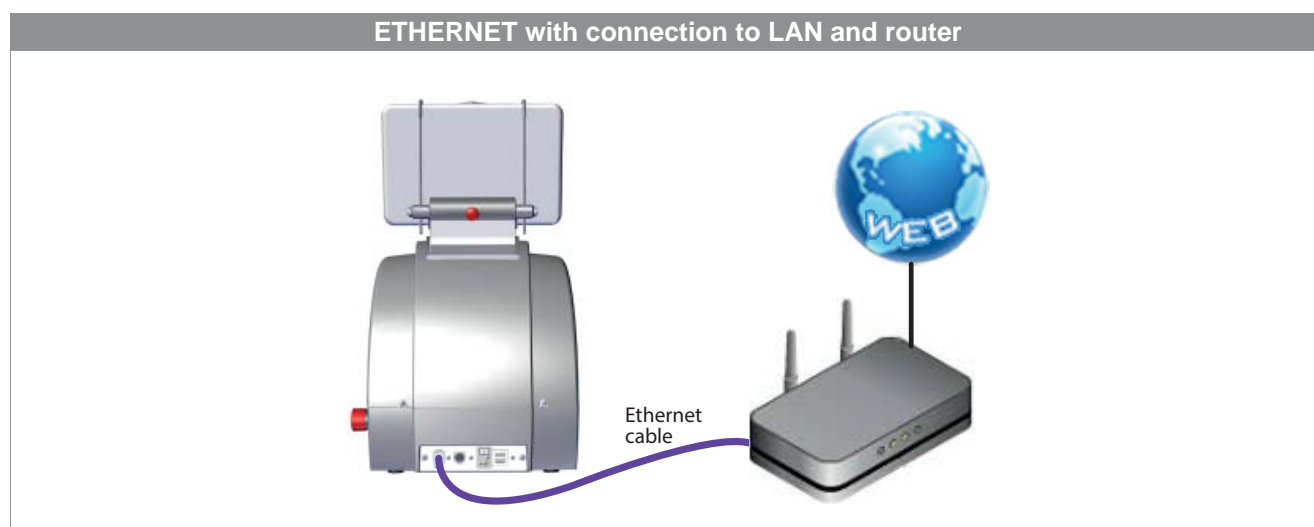

Fig. 12
- Connect your LAN ethernet cable to the machine (Fig. 12).